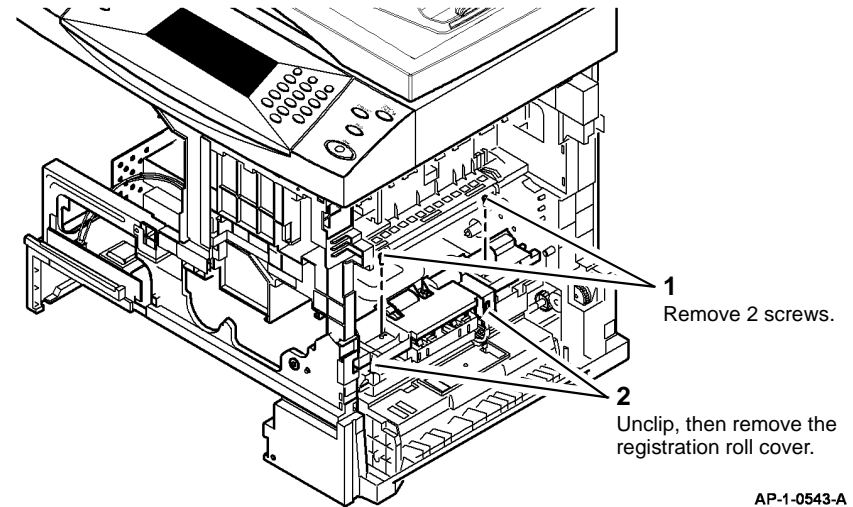

Figure 4 Cover Removal
12. Remove the registration roll cover, Figure 4.